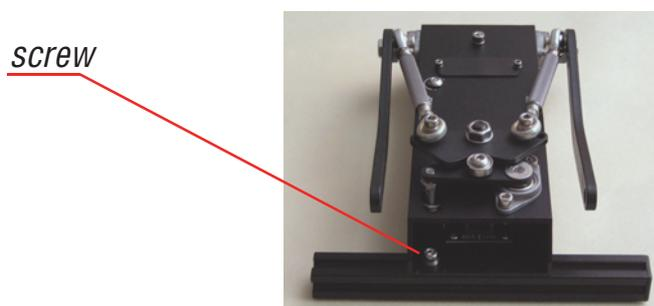

Fig. 2.2.
1. Unscrew the back leg from the case (fig. 2.2) and take it away.